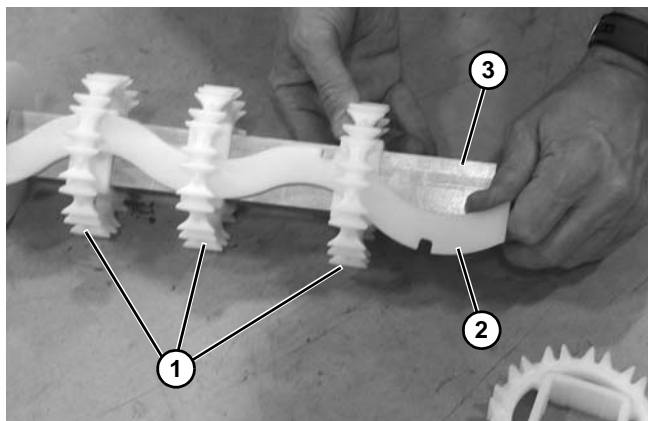

Figure 61
- Remove remaining sprockets (**Figure 61, item 1**) off the alignment key (**Figure 61, item 2**) while sliding the entire assembly off the drive spindle (**Figure 61, item 3**).